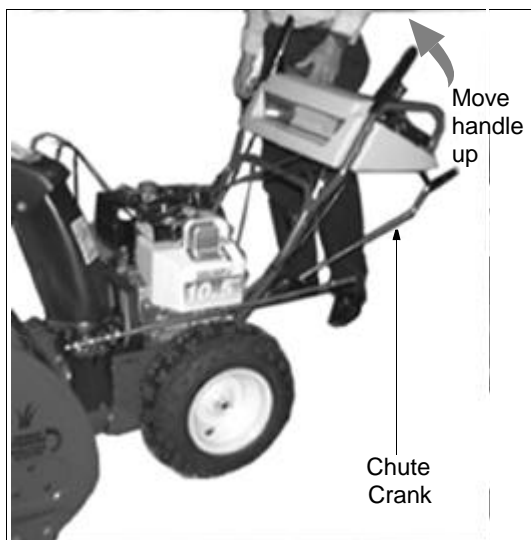

Figure 2
3. Raise the upper handle assembly until it locks over the lower handle. See Figure 2.